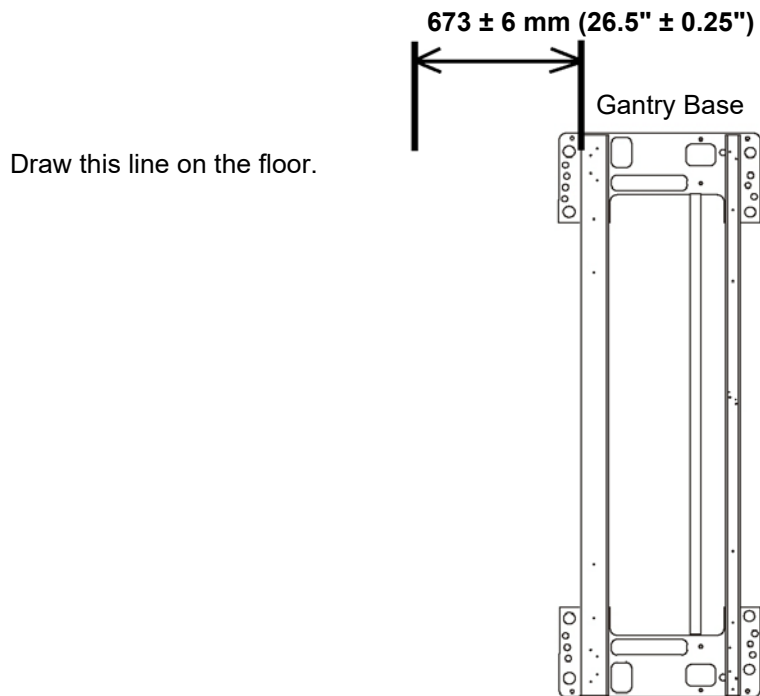

Figure 1-26 Draw Reference Line
- 1.) Draw a reference line of 673 ± 6 mm ($26.5" \pm 0.25"$) position from Gantry Base on the floor as shown in the Figure 1-26. This line should be parallel to the gantry. In a later section, you will move the table against the 673 mm ($26.5"$) mark.